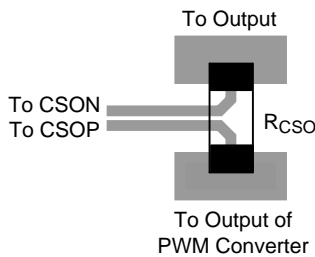

Figure 6. Kelvin Connections for the  $R_{CSO}$
- ▶ Connect the capacitor (between the CSOP and CSON pins) close to these pins. The paths of CSOP and CSON must be directly connected to the terminals of current-sense resistor ( $R_{CSO}$ ) using Kelvin connections as shown in the layout shown in Figure 6.